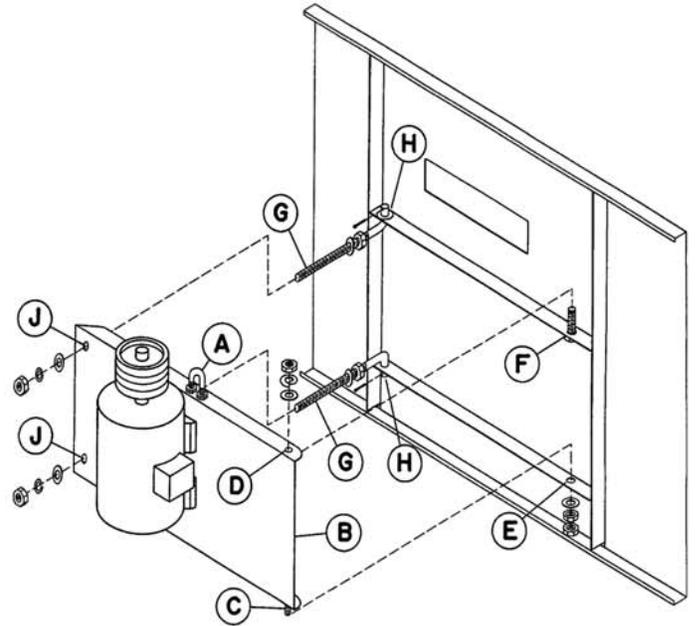

Figure 24 – External motor installation
1. Study Figure 24 before installing the motor base on the unit.